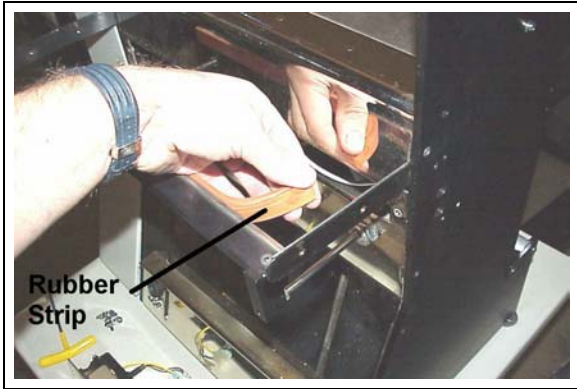

Fig 4-1
2. Remove the worn rubber pad by pulling from the end corner of the rubber strip. Once started, the rubber will easily slide out from the metal pressure strip housing. See Figure 4-1.